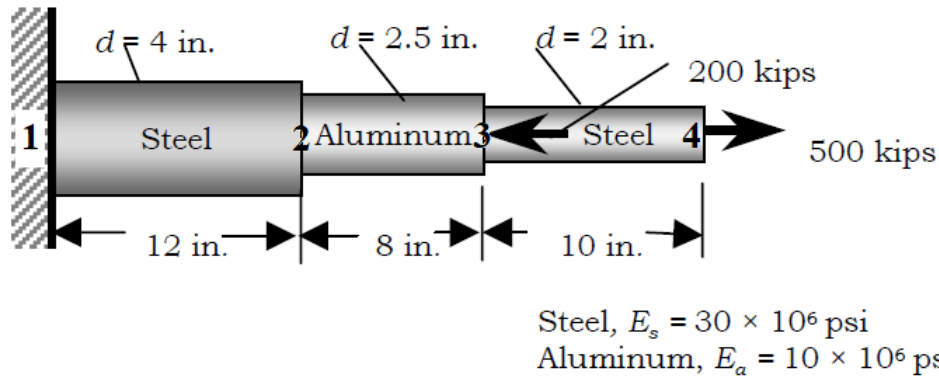

Figure 4
- 2B) For the truss assemblages shown in Figure 4, determine the nodal displacements, Use the direct stiffness method